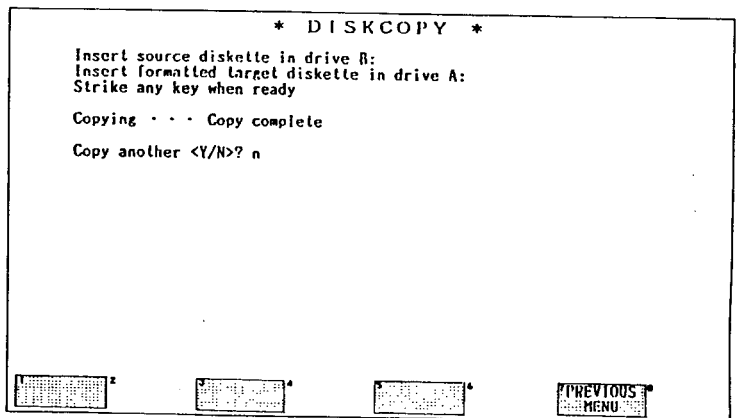

Fig. 7.140
3. To copy other disks, depress Y as shown in Fig. 7.140, and execute the same procedure.